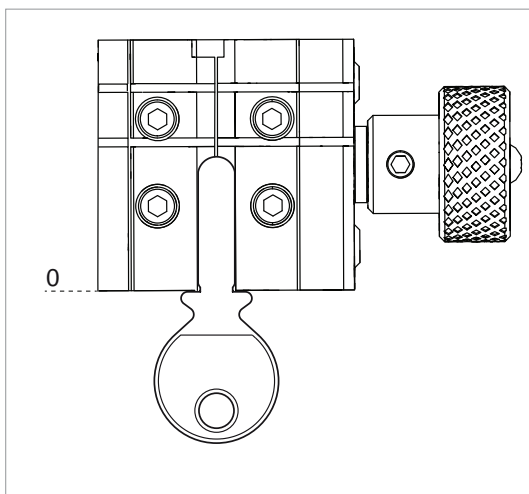

Fig. 14
- 1) Lock the sample key in the left hand clamp of the machine making sure that the key stop is pressed against the clamp (Fig. 14).